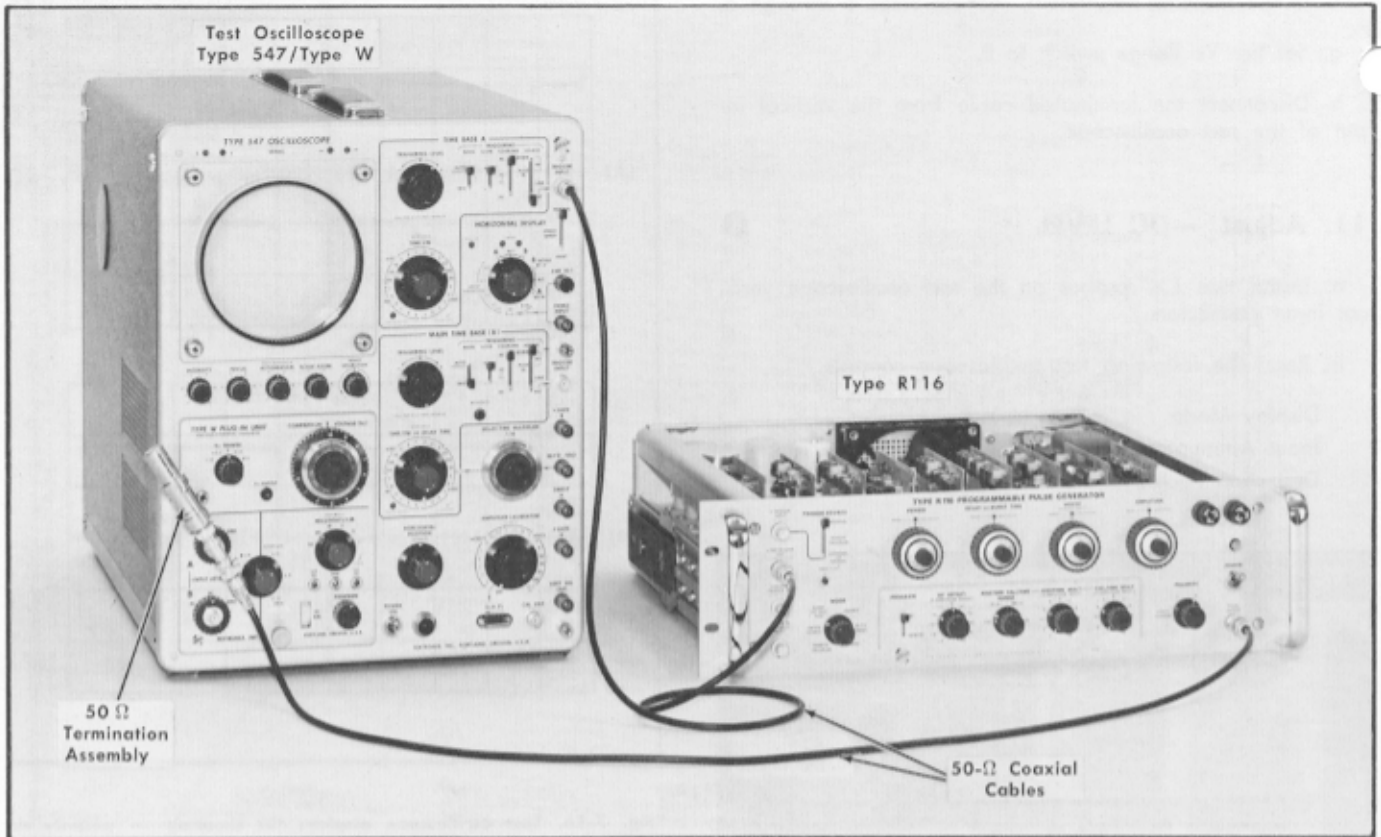

Fig. 7-17. Initial test equipment setup for calibration steps 13 through 18.
- a. Test equipment setup is shown in Fig. 7-17.